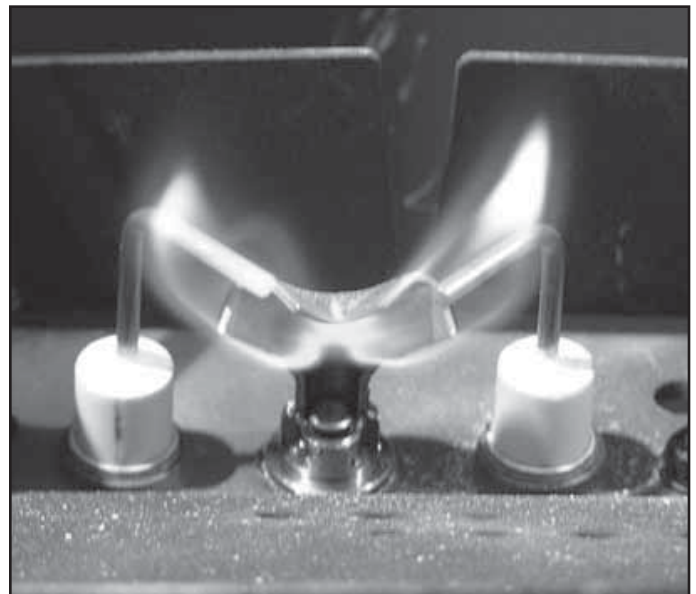

Figure 3.3 IPI Flame Patterns
- Inspect pilot flame pattern and strength. See Figure 3.3 for proper pilot flame pattern. Clean or replace orifice spud as necessary.